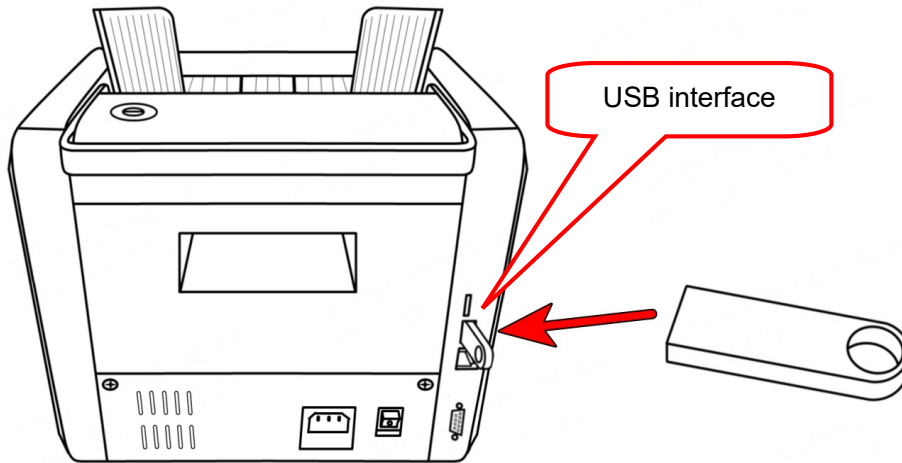

Figure 74
1) In the shutdown state, insert the USB disk into the USB interface of the machine, as shown in Figure 74 below: